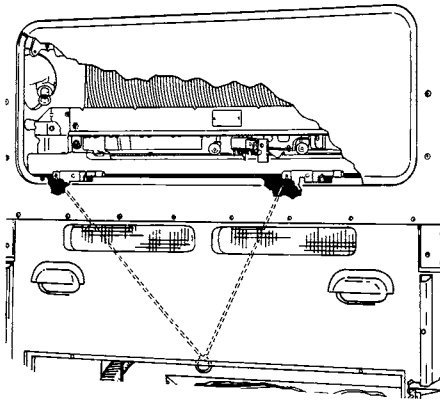

Figure 19.
1. Remove Rear Access Panel above phonograph rear door, *Figure 19*, in the following manner: